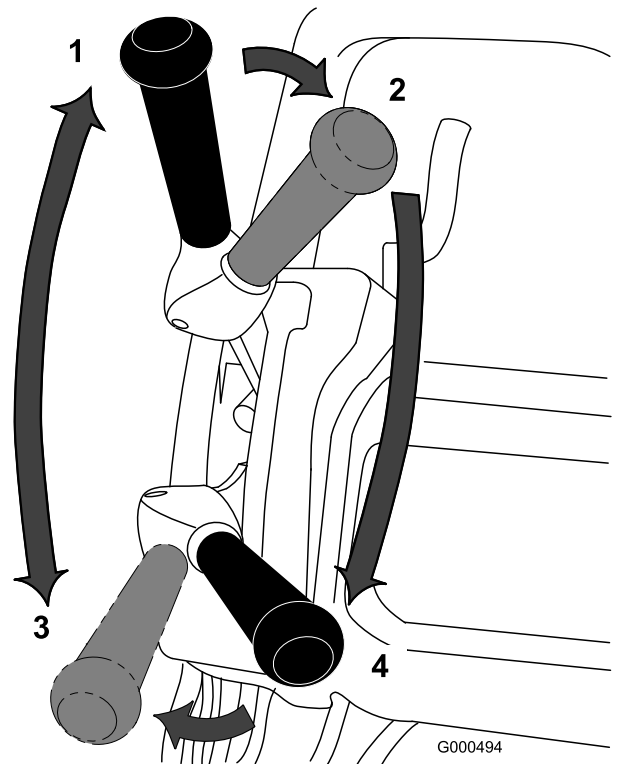

Figure 23
1. Start the engine, set the throttle to a reduced speed, push down on the handle to raise the cutting unit, press the operator-presence control, move the traction and reel-drive engagement lever to the FORWARD (transport) position, and transport the machine onto the collar of the green (Figure 23).
2. Move the lever to the NEUTRAL position (Figure 23).
3. Move the lever to the traction—NEUTRAL and reel drive—DISENGAGE position (Figure 23).
4. Move the lever to the traction—FORWARD and reel drive—ENGAGE position (Figure 23), increase the throttle speed until the machine is traveling at the desired ground speed, drive the machine onto the green, lower the cutting unit to the ground, and begin mowing.